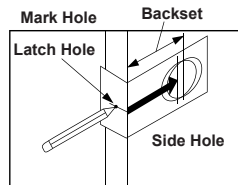

Fig. 12
Step 1. Using the provided template, mark the locations for the centers of the backset and the latch hole (Fig. 12).